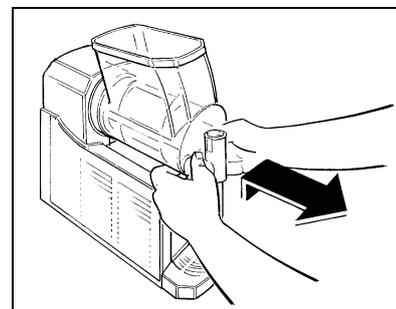

Fig. 16
- Pull the tank upward and outward, as shown, to completely remove it from its seat (fig.16).